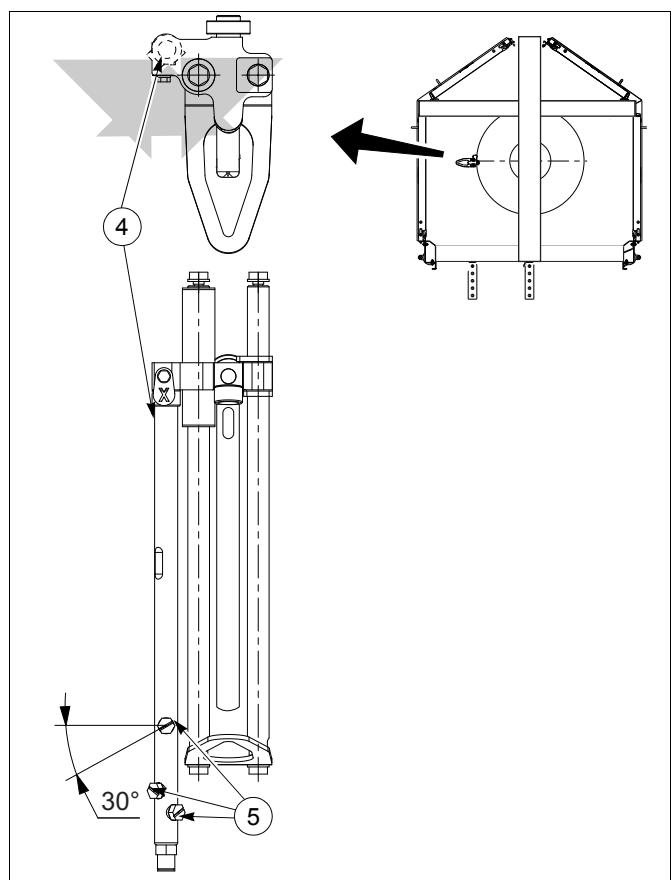

fig. 34 Unit with inner and outer spray pipe model B and HV
- Adjust the flat jet spray as shown in fig. 34.